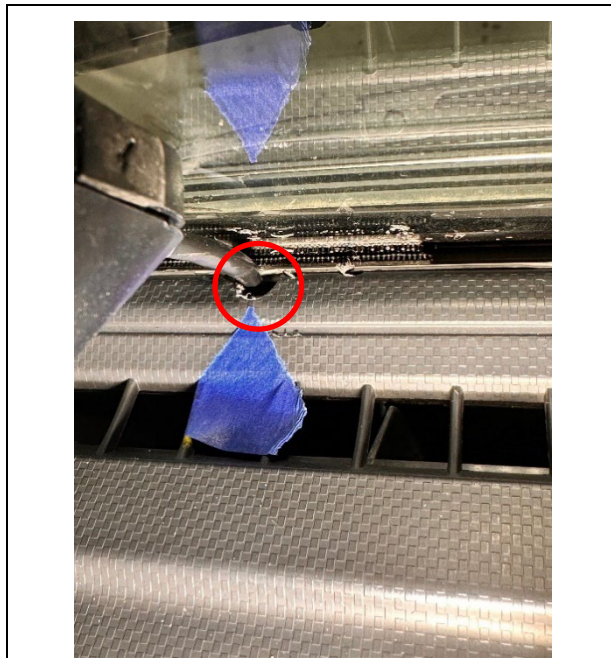

Figure 84
90. Remove the block or item that was used to maintain the gap between the IP and the windshield and set the IP back in place. Make sure that the camera cable is routed through the new notch in the IP. (See Figure 84.)